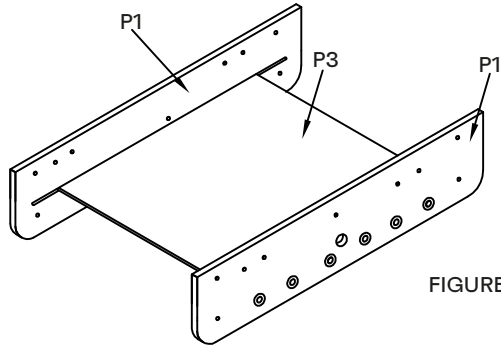

FIGURE 1
1. Slide playfield P3 into the groove on the side panels P1 with graphics facing down .See figure 1 .